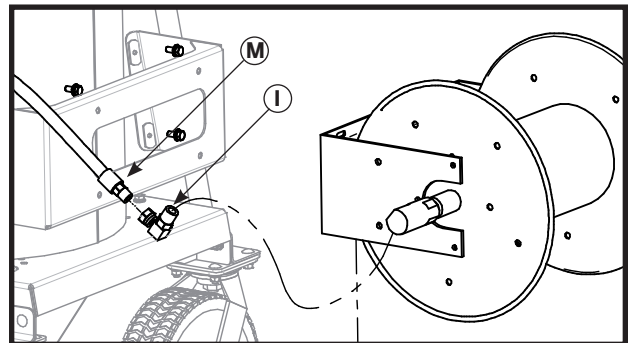

Figure 4
2. Install the hydraulic elbow fitting (I on figure 4) to the reel entry.
4. Connect the short hose to the hydraulic elbow fitting at the reel entry (M on figure 4).